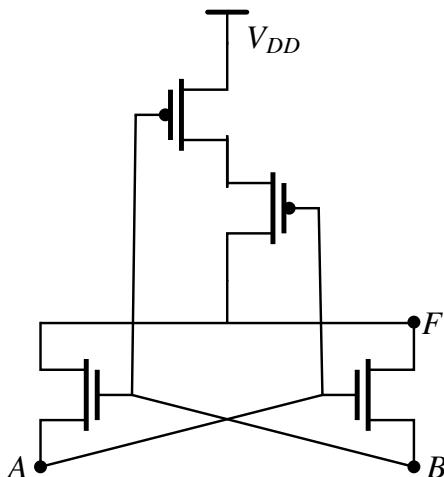

Fig. 5.33: Circuit Diagram
37. In the circuit shown in Fig. 5.33, A and B are the inputs and F is the output. What is the functionality of the circuit? (GATE-EC2019,15)